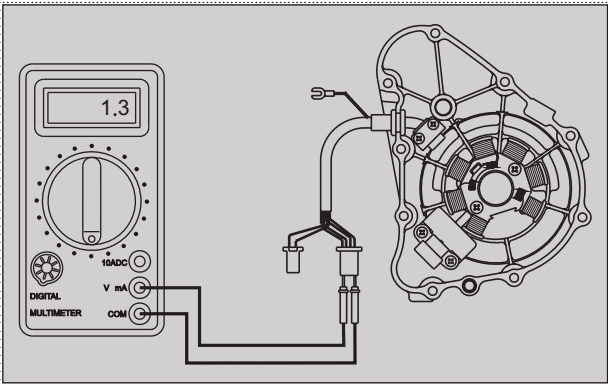

Fig. 5.33
- Connect the pocket tester '+ve' lead to the white with red tracer wire (WR) from the lighting cum charging coil and '-ve' lead to black wire (B) from the body (earth). Measure the resistance. If resistance is not within the specified limit, replace the coil with a new one. (Fig. 5.33)